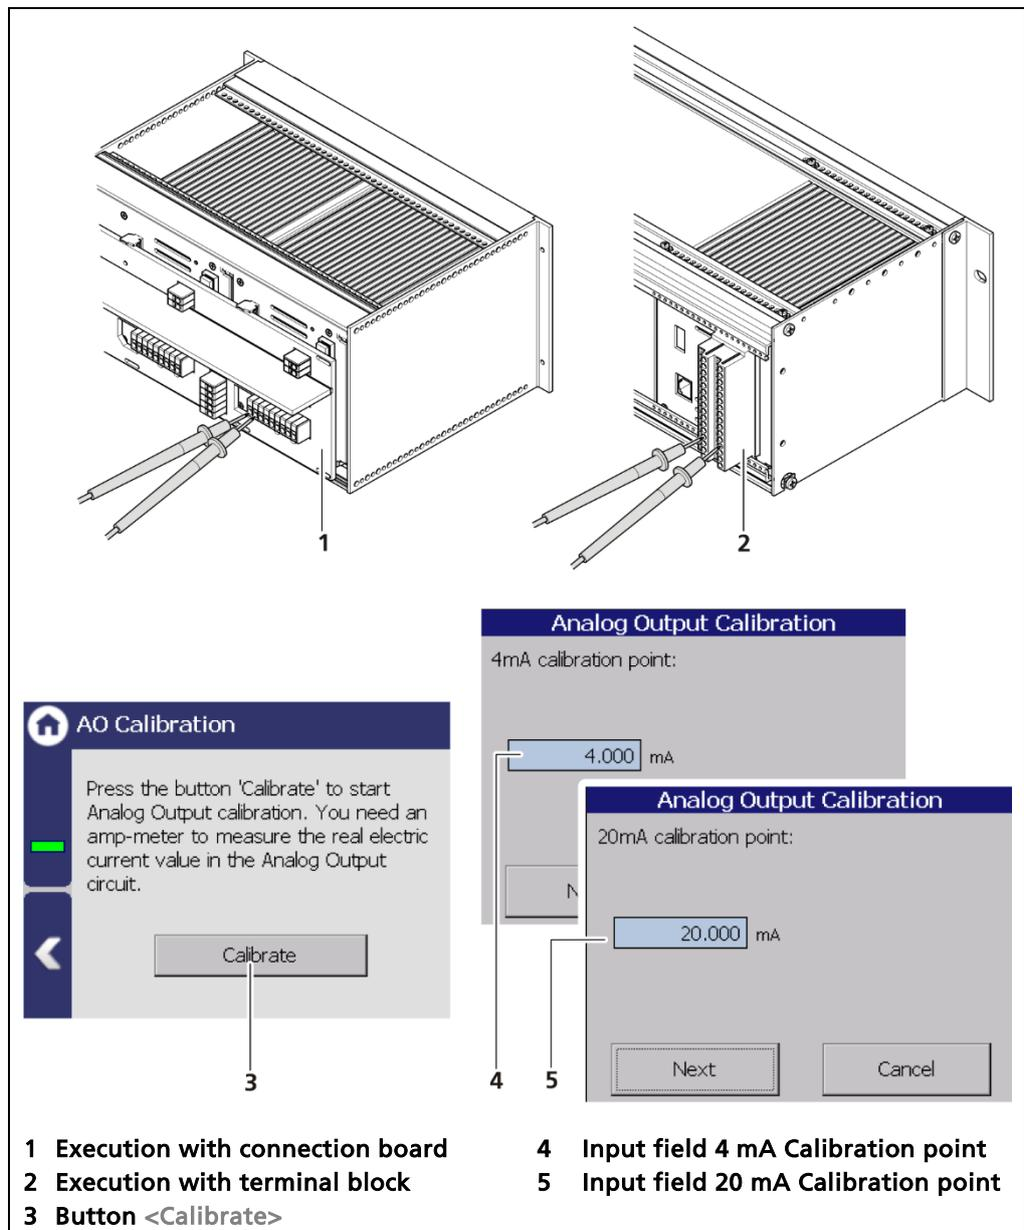

Fig. 97 Analog Output (calibration)
2. Observe the terminal allocation in Chapter 5.4.1 or Chapter 5.5.1 for executions with terminal panels (Fig. 97, item 1) or allocation with terminal block (Fig. 97, item 2).
4. Enter the indicated value on the current measuring instrument in the input box (Fig. 97, item 4).
6. Enter the indicated value on the current measuring instrument in the input box (Fig. 97, item 5).